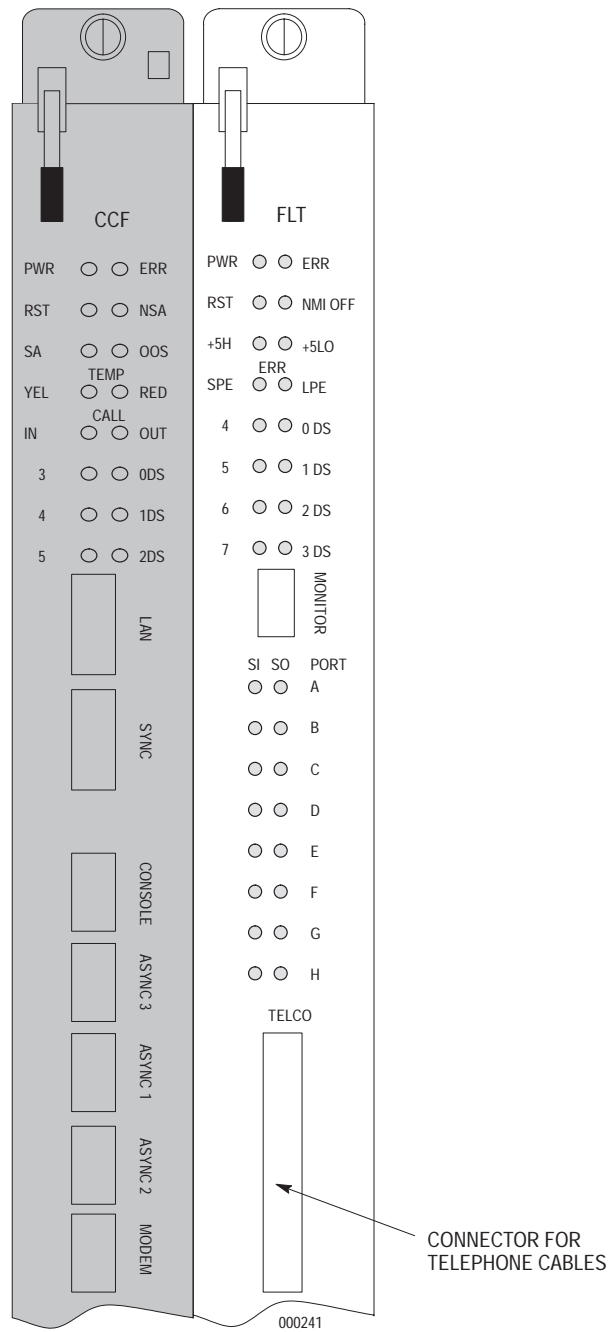

Figure 4-4. TELCO Connector on an FLT Card (Slot 2).
2. Insert the cable-end connector into the appropriate TELCO connector on the FLT card. Secure the cable with the Velcro tie. Repeat for all other pertinent telephone connectors. Refer to Figure 4-4 for the location of the TELCO connector on an FLT card (the first FLT card, in slot 2, is illustrated).